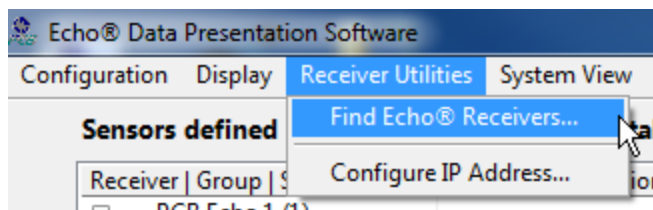
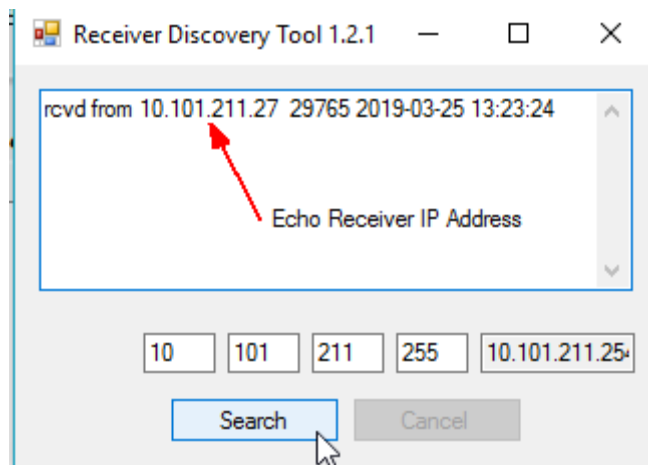

Figure 94 – Echo® Receiver Utility Menu Items
Figure 95 – Echo® Receiver Discovery Utility
- The preferred method is to run the **Echo® Receiver Discovery Tool** (Receiver Utilities | Find Echo Receivers...) from the main menu bar - Figure 94. The screen shown in Figure 95 below will appear. Clicking 'Search' should reveal the Echo® receivers, their assigned IP address and their internal unit ID. Enter the IP address seen here in the IP Address field of the Echo® Receiver Connection Parameters found on the main Echo® software screen. The ID is marked on the receiver itself so positive identification can be made. The utility will start with the 1st 3 octets set to the same values as the PC's IP address and 255 in the last one. If this fails to find the receiver then change the 3rd octet to 255 and try again.